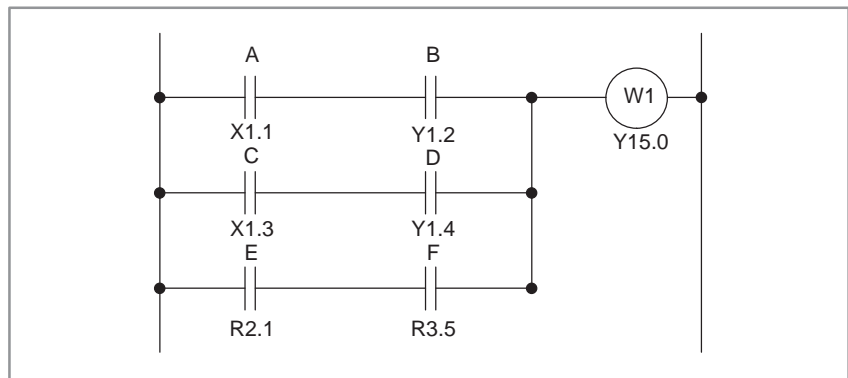

Fig. 4.1.9 Ladder diagram
(1) Format
- (2) Stacks the intermediate results of a logical operations. After shifting the stack register left one bit, sets a signal at a specified address to ST0.
- (3) Is used when the signal to be specified is contact A (—|—).
- (4) See Fig. 4.1.9 and Table 4.1.9 for an example of using the RD.STK instruction.
Table 4.1.9 Coding for Fig. 4.1.9
- (2) Induces a logical sum from the operation results in ST0 and in ST1, sets the result in ST1, and shifts the stack register right one bit.
- (3) See Fig. 4.1.9 and Table 4.1.9 or Fig. 4.1.10 and Table 4.1.10 for examples of using the OR.STK instruction.